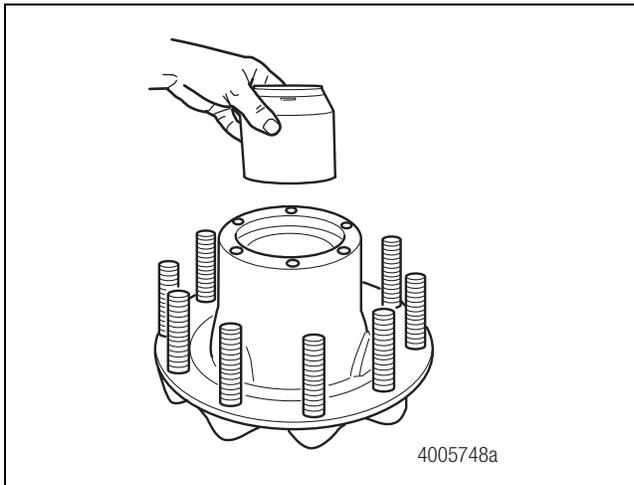

Figure 5.3
- **If the spacer has a tapered end:** The tapered end should face TOWARD the outboard end of the hub. Figure 5.3.